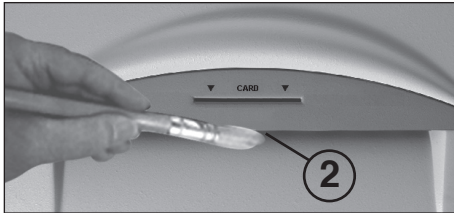

fig. 4
**CLEANING THE PHOTOCELLS (Fig. 4):**